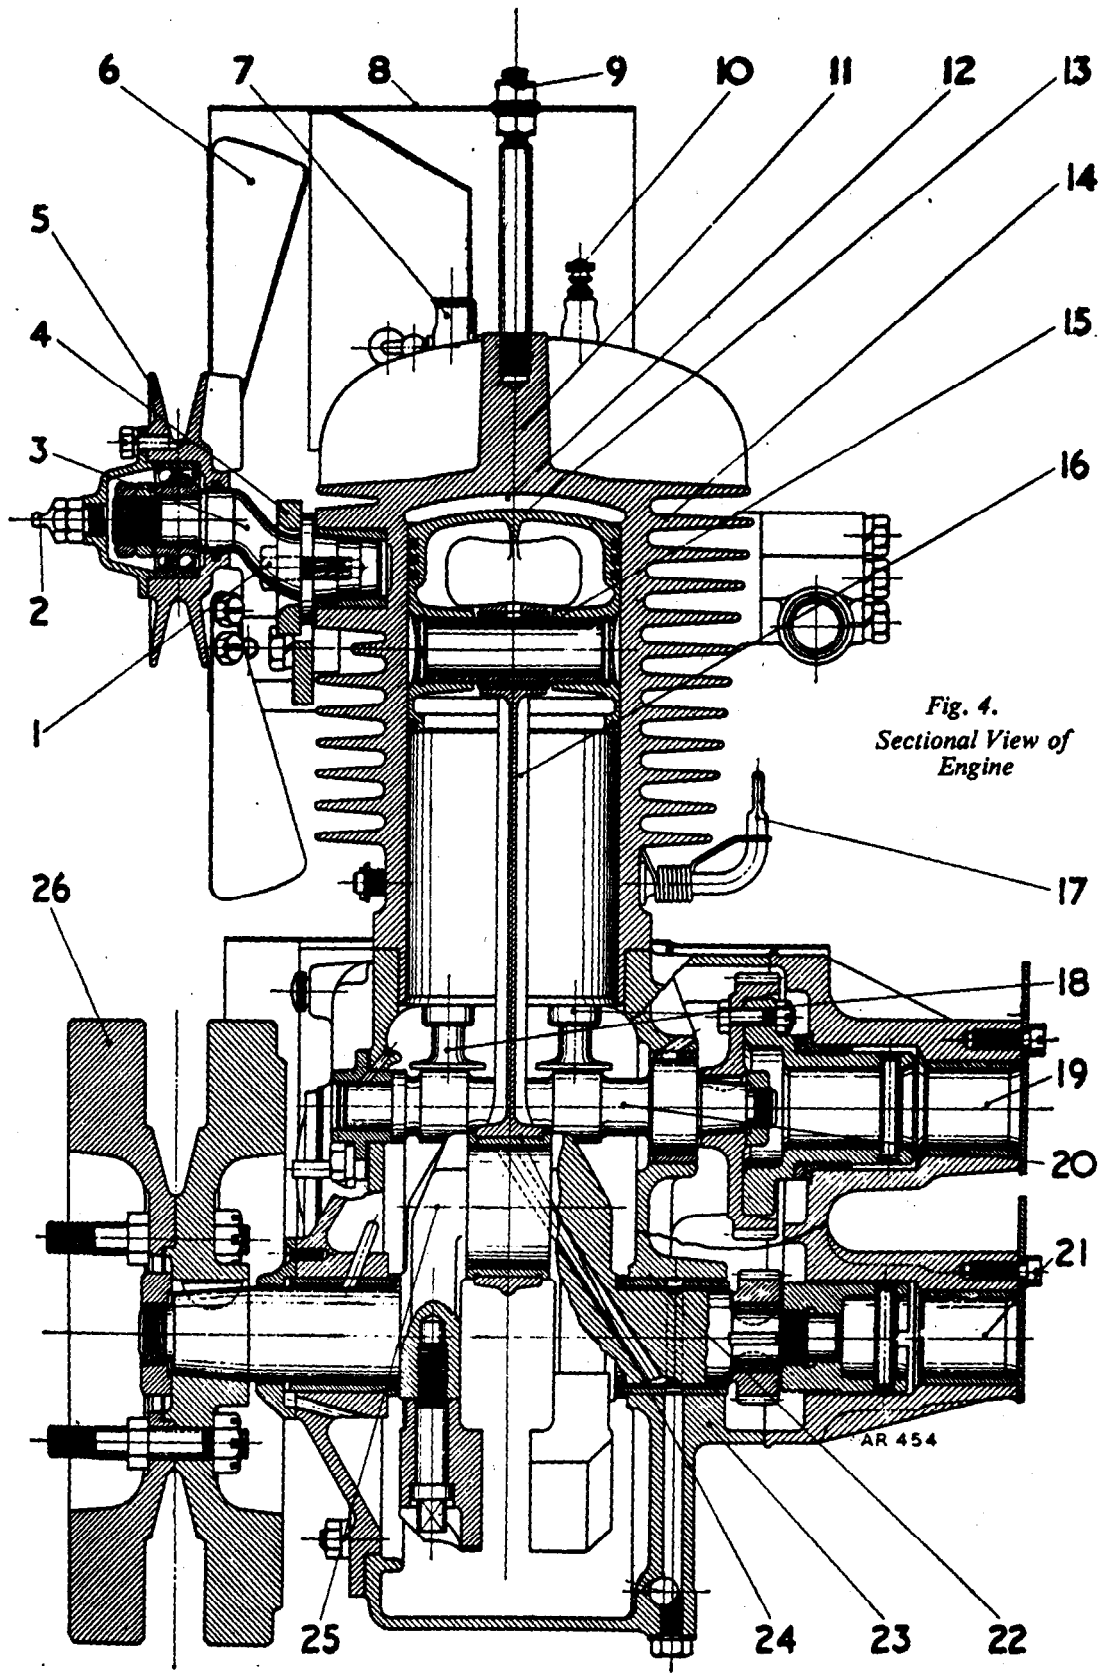
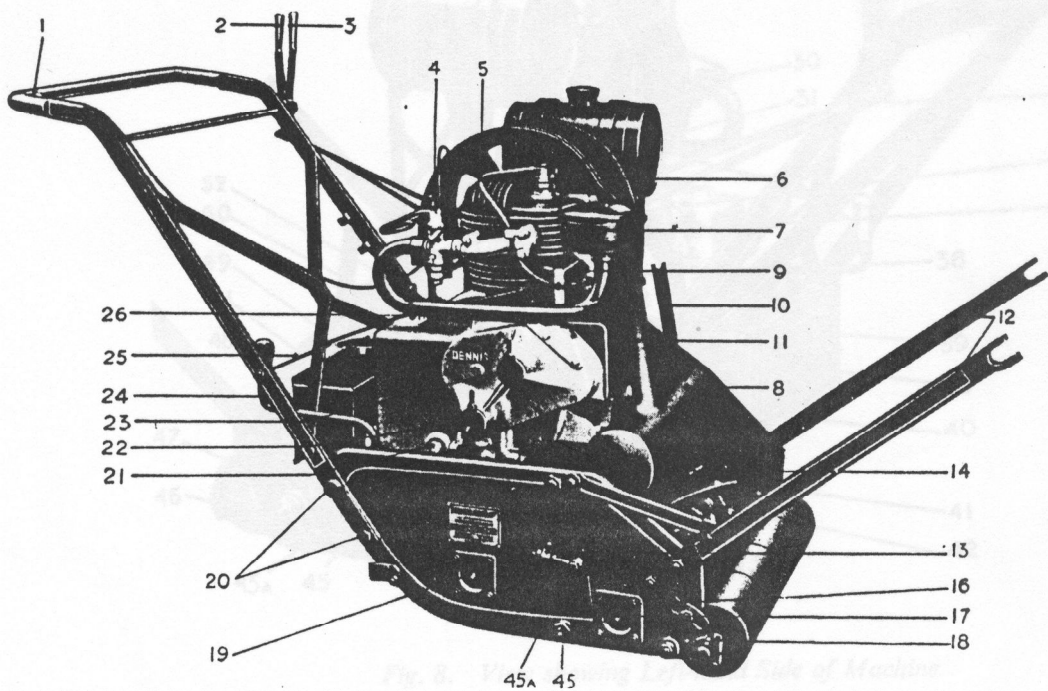

Fig. 4.
Fig. 7. View showing Right-hand Side of Machine
DECARBONISATION (see Figs. 4, 5 and 6).—When decarbonisation becomes necessary, the cylinder (11) will have to be detached from the crankcase.
(1) Turn off the petrol and remove the flexible feed pipe to the carburettor.
(2) Remove the fan cowling (8).
(3) Unscrew the two bolts (1) behind the fan attaching it to the cylinder and remove the fan and bolts.
(4) Detach the air cleaner from the air inlet pipe and remove the carburettor and inlet assembly.
(5) Remove the exhaust pipe and silencer assembly.
(6) Undo the nut (32) attaching the valve tappet cover (31) to the cylinder block. Remove the cover and using the spanners provided, unscrew the collars on each valve stem. Then with the valve caps removed the valves and springs can be withdrawn.
(7) Unscrew the three nuts (41) attaching the cylinder to the crankcase, when the cylinder can be lifted off exposing the piston (13).
(8) Scrape the carbon away with a suitable tool, taking care not to mark or scratch the machined surface of the piston head.
(9) The valve seats should now be ground in using carborundum and oil mixed to a paste. With a brace, carefully grind the valve in to its seating. See that the brace is held perpendicular and not thrusting sideways, otherwise the seatings will be made oval. Clean the valves and the seatings, and see that they are dry.
(10) Refit the valves in the cylinder before replacing the cylinder on the crankcase.
(11) Having assembled the cylinder and valves check as follows for valve timing: The inlet valve should open $\frac{3}{32}$ in. before top dead centre, and close $\frac{9}{16}$ in., measured on the piston travel, up the compression stroke. Firing point for ignition is top dead centre. The valve tappet clearances obtained by means of the adjusting nut provided are .004 in. for the inlet valve, and .006 in. for the exhaust valve.
(12) Unscrew the drain plug (36) at the bottom of the sump, clean the gauze strainer (21 Fig. 7) and drain off the old oil. Replace the plug and fill up with clean oil, as already instructed under "STARTING THE ENGINE".